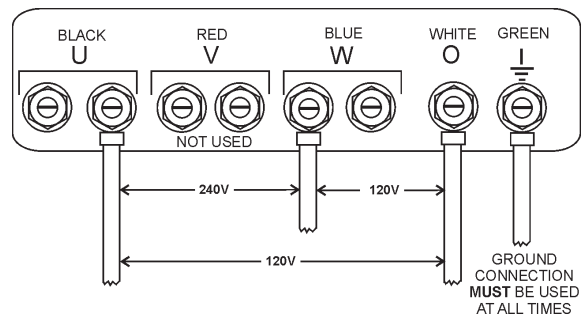

Figure 26. UVWO Terminal Lugs 1Ø-240/120V Connections
2. Connect the load wires to the UVWO terminals as shown in Figure 26.